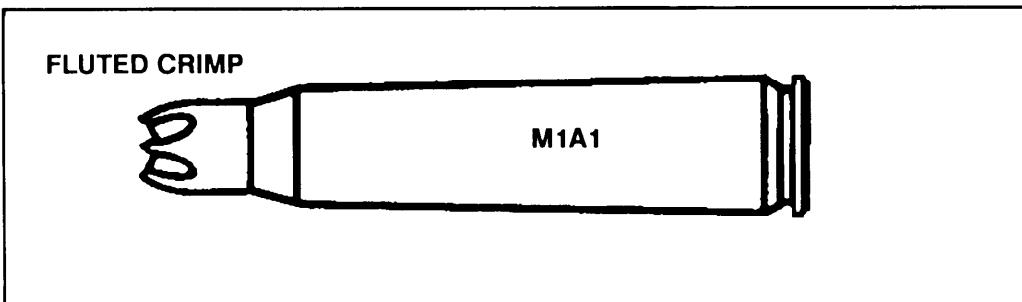
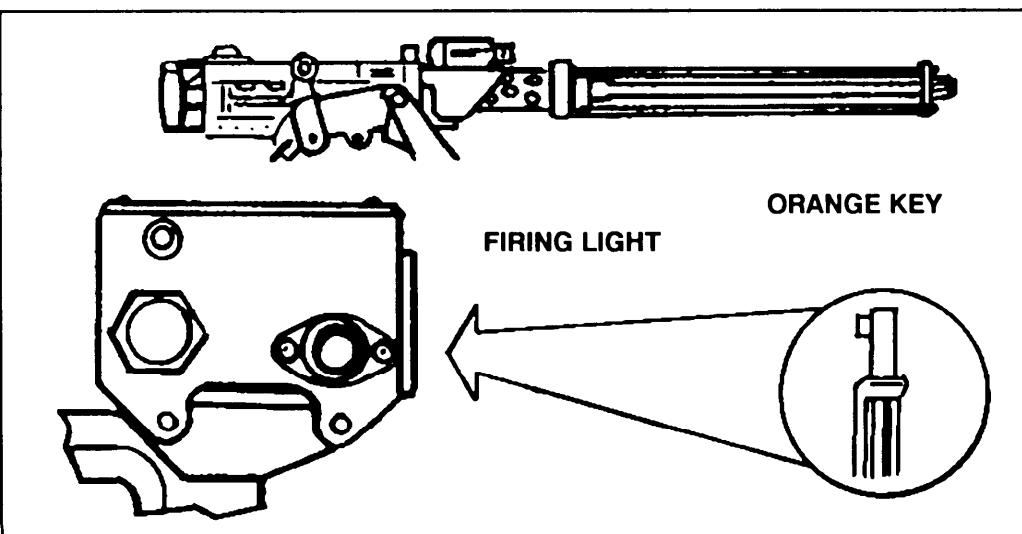

Figure B-6. Proper blank ammunition to use with M19 BFA.
Figure B-7. Operation of the MILES transmitter.
d. Operating the Transmitter. Ensure that the M19 BFA is correctly mounted. Turn the orange key to WEAPON ON. Load the machine gun with M1A1 blank ammunition only (Figure B-6). Fire normally. The sound of the blanks firing will trigger the transmitter. The transmitter will work only as long as the supply of blank ammunition lasts. Once a day, use a clean cloth to remove blank fire residue from the transmitter lens. To test the transmitter, fire a shot burst and watch the firing lamp (Figure B-7). If no light, replace the battery and test again. If still no light, replace the transmitter. Use DA Form 2404 to report the information.